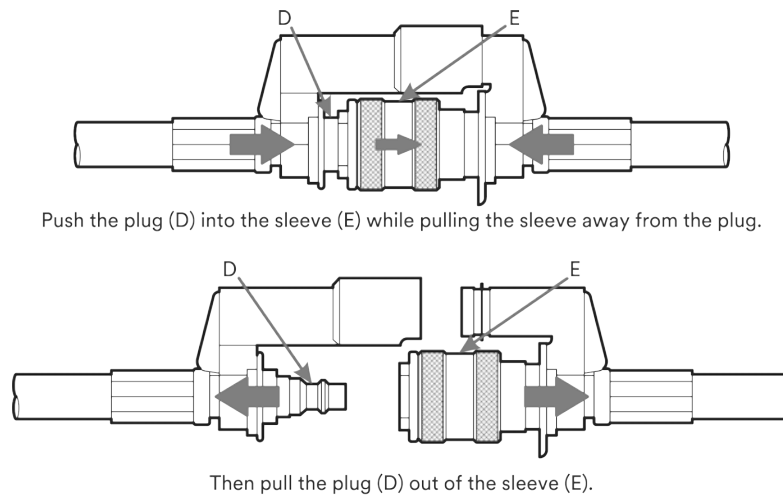

Figure 1-7 Testing the quick-disconnect
- a While pushing the plug D into the socket, pull the locking sleeve E back toward the guard. The plug D will separate. See Figure 1-7.